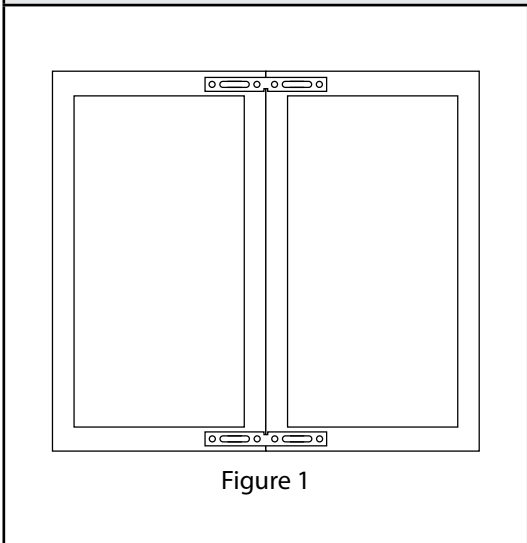

Figure 1
- c. Use the center notch to center door joining brackets between both doors (see Figure 1). Attach door joining brackets near top and bottom of door frame with provided #8 x 5/8" screws (4 screws per bracket).